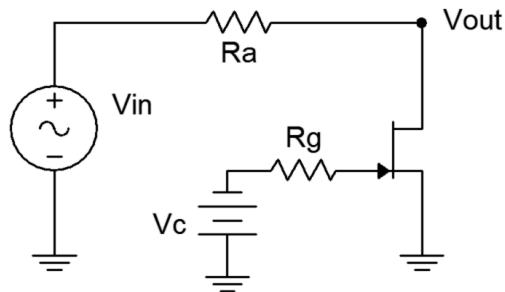

Figure 1
1. Consider the circuit of Figure 1 where V_{in} is a 100 mV peak sine at 1 kHz, $R_a = 4.7 \text{ k}\Omega$ and $R_g = 10 \text{ k}\Omega$. As V_c varies between 0 and $V_{GS(\text{off})}$, the resistance of the JFET varies between a near open and a minimum value of $R_{ds(\text{on})}$. V_{out} is derived from a voltage divider between R_a and the JFET's resistance.
2. Build the circuit of Figure 1 with $R_a = 4.7 \text{ k}\Omega$ and $R_g = 10 \text{ k}\Omega$. Set V_{in} to 100 mV peak at 1 kHz. Set the control voltage, V_c , to 0 VDC. Measure the signal at V_{out} using the oscilloscope and record the value in Table 1. Also, using the voltage divider rule, determine the effective resistance of the JFET.